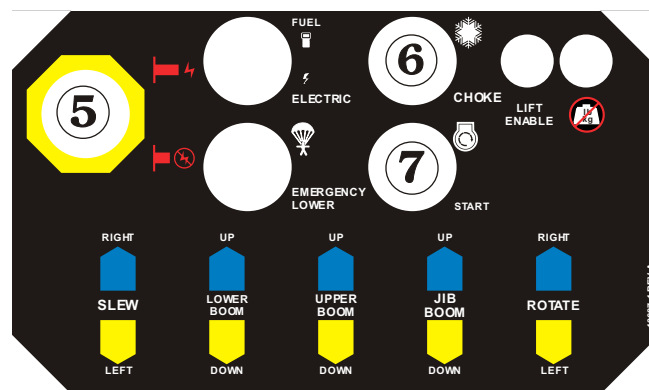

Figure 10.21 - LV Machines with Insulated Fibreglass Platforms
5. If the engine is at ambient temperature (cold), hold the **Choke Switch** **6** (see Figure 10.21) down throughout the next step.